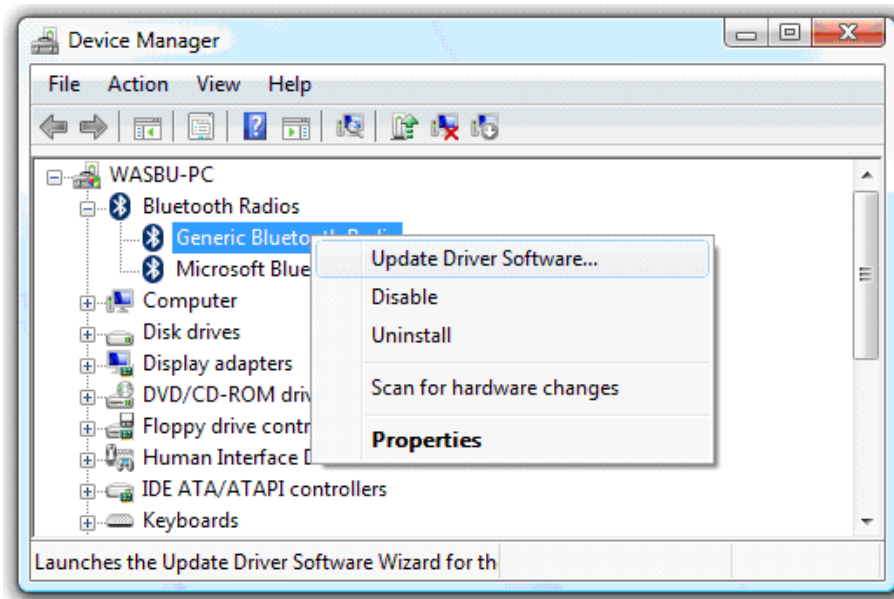

Figure 4.1: Changing the Driver
4. Expand the **Bluetooth Radio** section. Right-click on **Generic Bluetooth radio** and select **Update Driver...**, as shown in Figure 4.1.